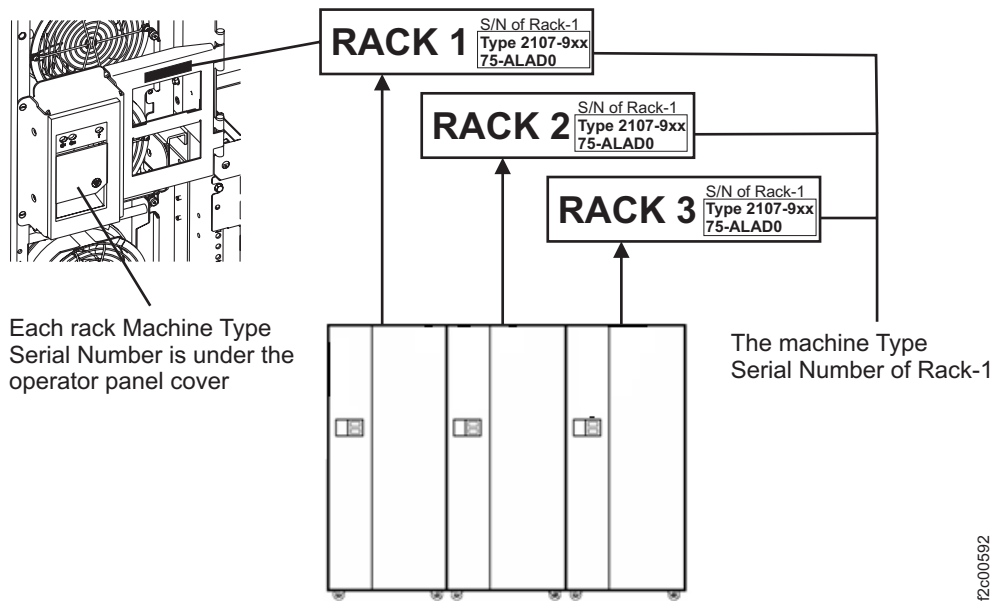

Figure 1. Rack serial number
- Each rack has a small label with its rack S/N under the operator panel cover. See Figure 1.
- Each rack has a large label with its rack number (position in the storage facility) and the S/N of the Rack-1 it must be installed to on the right of the operator panel cover. See Figure 1.